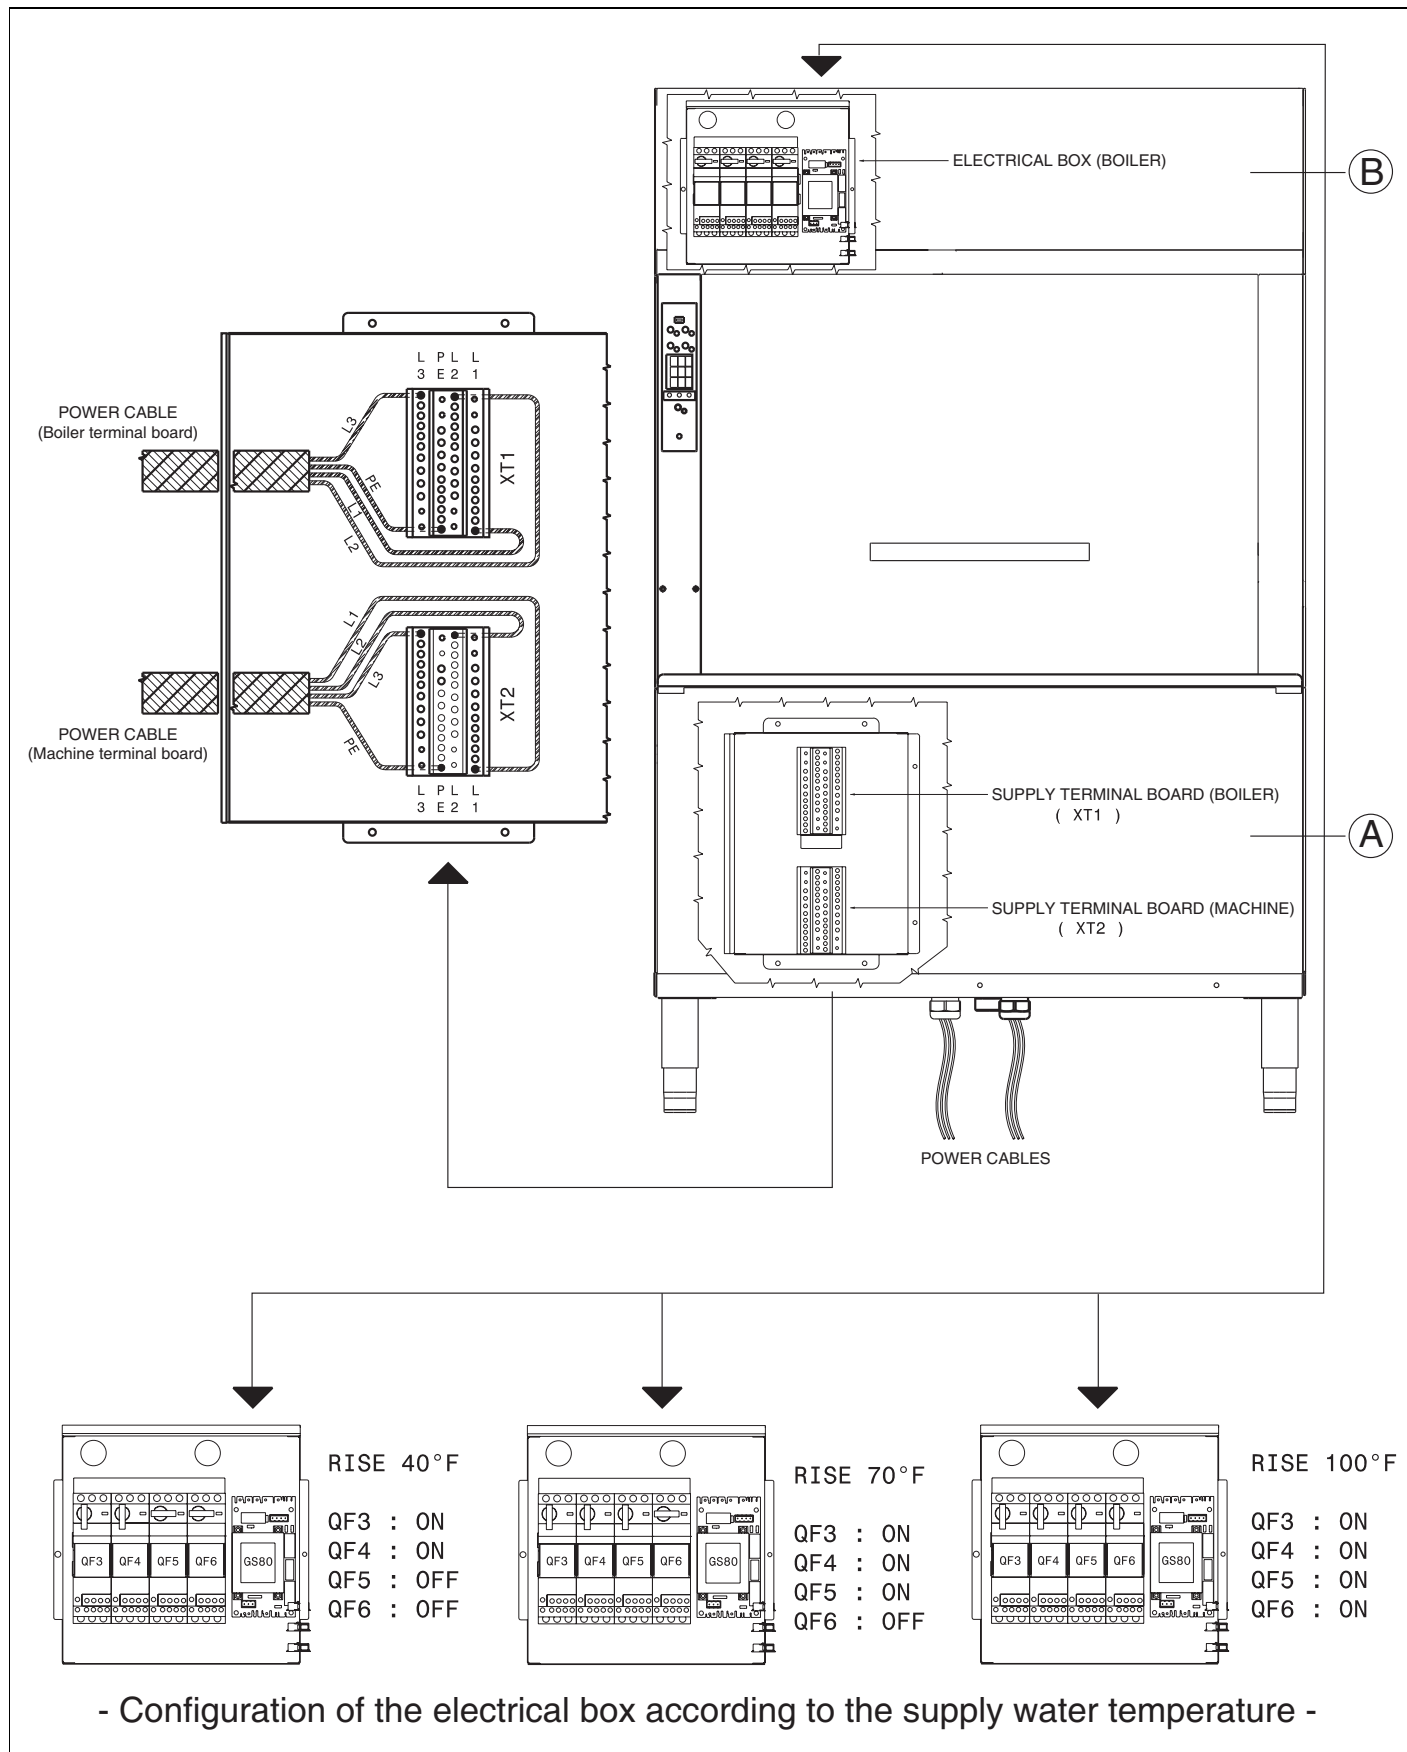

Figure 10 Electrical connections diagram
- remove the front panel "A" of the wash and rinse zone (Figure 10);
- close the front panel "A" of the wash and rinse zone (Figure 10).
- remove the upper panel "B" (Figure 10);
- refit the upper panel "B" (Figure 10).